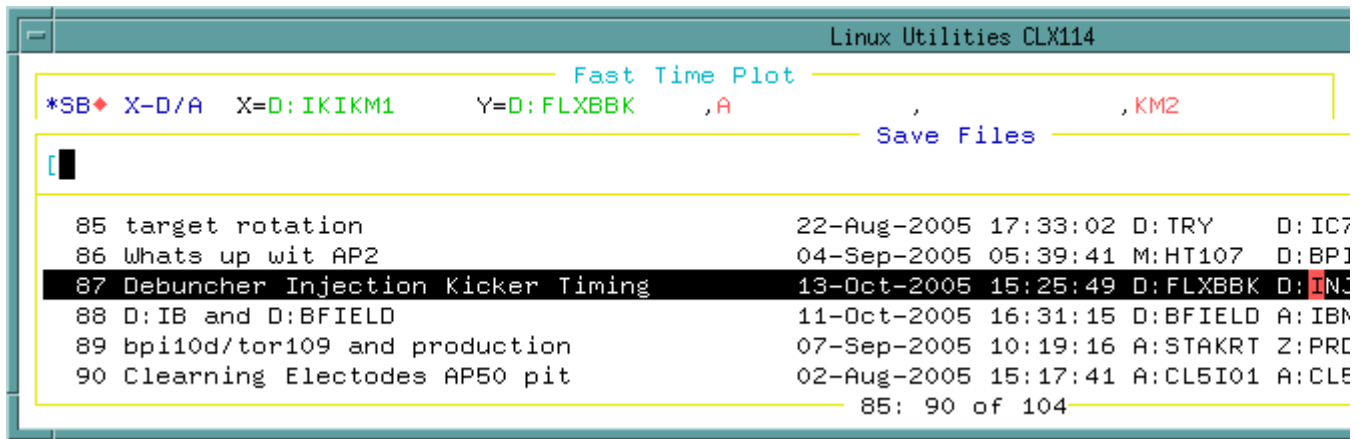

Figure 11 From the Utilities Window, click on FTP, then click on Restore, and then select P-bar. Select file 87 and start the FTP.
1. As shown in Figure 11, start a FTP from Utility Window FTP Pbar File 87.